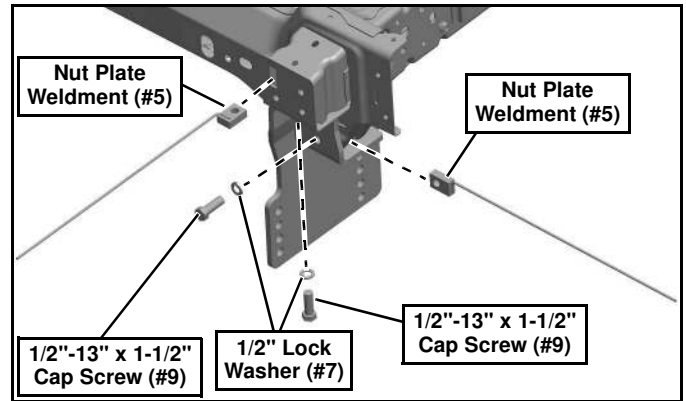

Figure 5
5. Insert a Nut Plate Weldment (#5) through the rectangular slot in the front of the truck frame and bend the wire as needed to align with the drilled hole (See Figure 5).
6. Fasten the front end of the Driver Side Mount Weldment (#2) to the truck. Use a  $\frac{1}{2}$ " Lock Washer (#7) and a  $\frac{1}{2}$ "-13 x 1- $\frac{1}{2}$ " Cap Screw (#9) to thread into the Nut Plate Weldment (#5) on the inside the frame (See Figure 5). Make sure the Nut Plate Weldment (#5) rests flat in the frame rail and does not get caught on any weld nuts located inside. Remove any excess wire sticking out of the frame because a tab in the bumper will need to stick back into this slot during re-assembly.
7. Fasten the lower hole to the front cross member. Use a Nut Plate Weldment (#5), a  $\frac{1}{2}$ " Lock Washer (#7) and a  $\frac{1}{2}$ "-13 x 1- $\frac{1}{2}$ " Cap Screw (#9) (See Figure 5). Remove any excess handle sticking out of the frame.